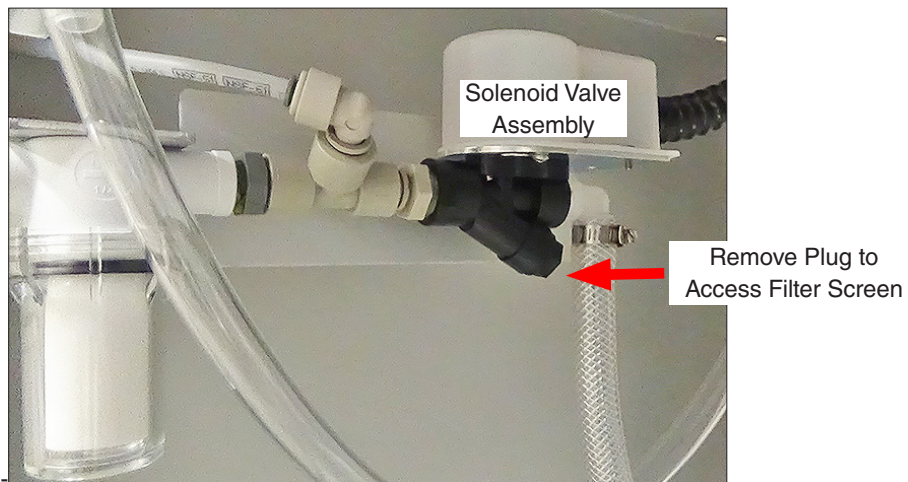

Figure 14.4b: Solenoid filter screen location.
- Inspect the solenoid filter screen (Figure 14.4b) every 6 months.